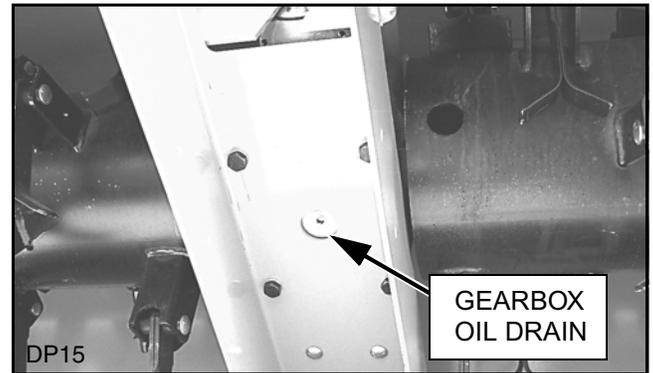

Figure 30. Gearbox Oil Drain Location
1. Change gearbox oil. Refill with SAE 85W90 gear oil. Capacity: 3-1/2 U.S. quarts (110 oz.). See Figure 30.